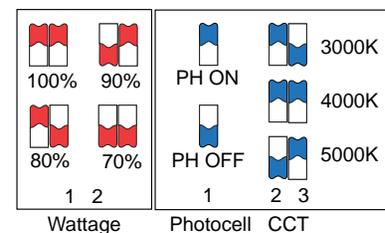

Figure 5-2
- Refer to Figure 5-2 for the lumen output / photocell / CCT settings.